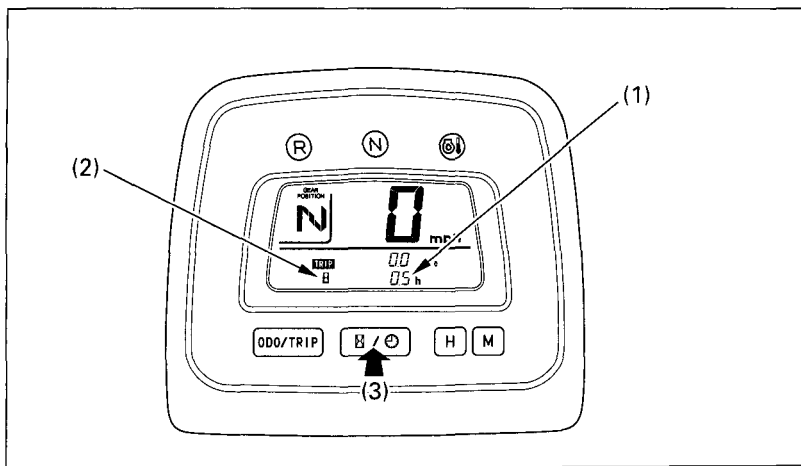

Fig. 2-19 (1) Hourmeter
When selected, the hourmeter (1) (Fig. 2-19) shows accumulated hours while the ignition is ON ( I ). The hourmeter provides accurate service period information for initial and regular maintenance. To change the display from the digital clock to the hourmeter mark (2), press and release the hourmeter/digital clock select button (3).